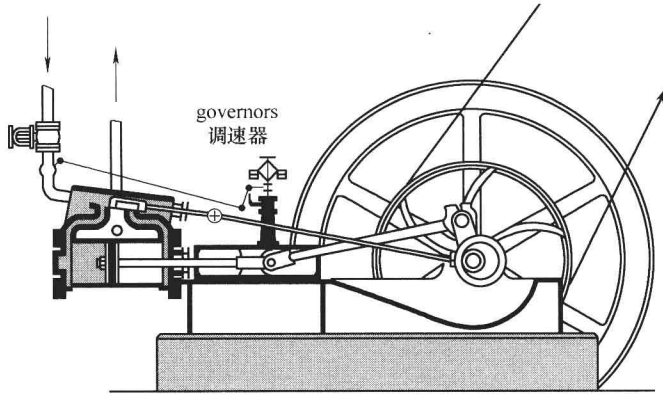
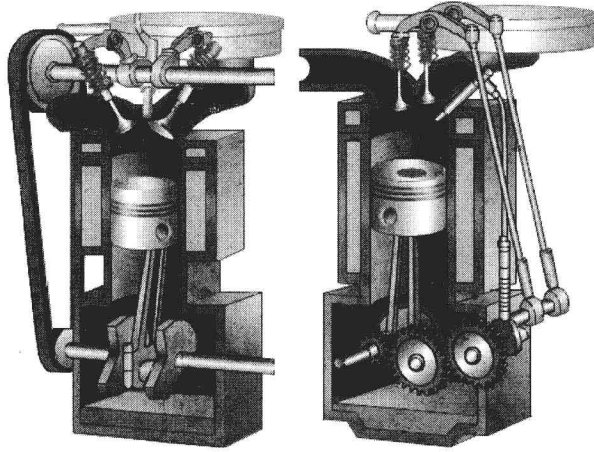

Fig. 1-5
Fig. 1-7
3.5 Steam engine is a symbol of the first industrial revolution which is the beginning of industrial age. Fig. 1-5 shows a steam engine improved by Watt. Read relative materials and understand the way in which Watt improved it. Analyze this steam engine, then grasp its working theory. Besides, describe the process of energy transfer.
3.5 第一次工业革命以蒸汽机的广泛使用为标志，也是人类进入工业时代的开端。图 1-5 所示为瓦特改良的蒸汽机结构模型，请查阅相关资料，了解瓦特从哪些方面对其进行了改良。对所示机器进行分析，掌握蒸汽机的工作原理，并说明能量转换过程。
4.5 Fig. 1-7 shows the internal structure of a combustion engine. Read relative materials and understand its working theory. Describe its working process and compare with the steam engine shown in Fig. 1-5, then analyze its advantages and disadvantages.